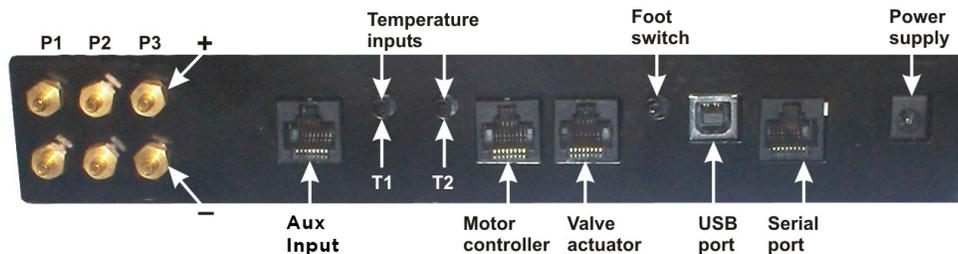

Figure 4.2: FlowCom Connections
5. Connect the temperature sensors to the temperature inputs on the FlowCom bottom panel (see "Figure 4.2: FlowCom Connections"). It does not matter which input is used for the sensors because FlowCom uses the difference between the two readings.
- Connect the Cat-5 cable between the adapter and the motor controller port on the FlowCom bottom panel (see "Figure 4.2: FlowCom Connections").